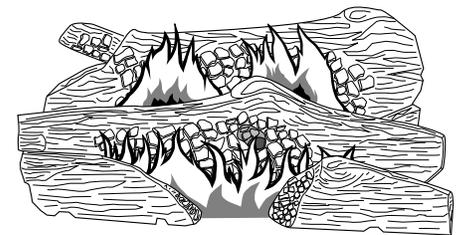

Figure 57 - Typical Flame Pattern for CHDV34NA, PA
Figure 57 shows a typical flame pattern for CHDV34(N/P)(A) models.